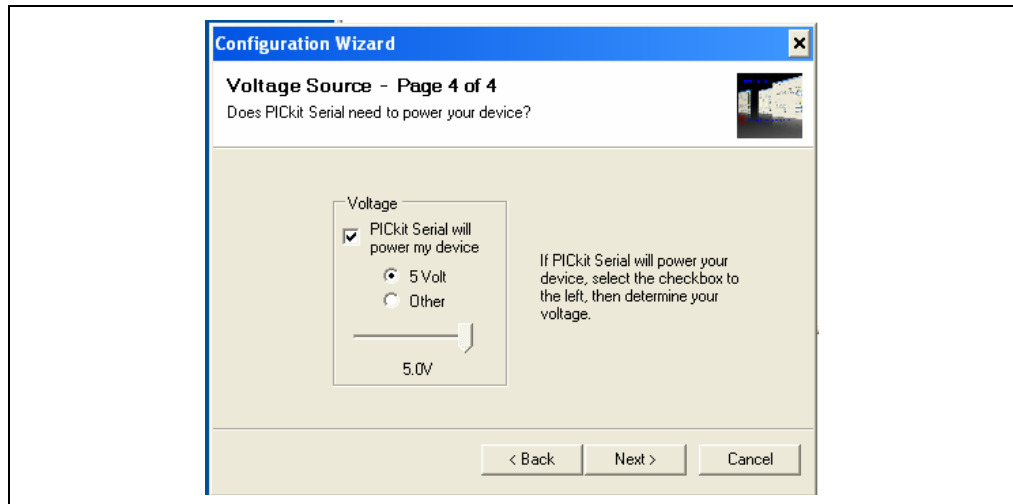

FIGURE 2-6: Voltage Source Selection Window.
- a) By choosing the “PICKit™ Serial will power my device” option and selecting the **5 Volt** radio button, as shown in Figure 2-6, the MCP3421/2 SOT-23-6 Evaluation Board will be powered by the 5V DC output of the PICKit™ Serial Analyzer through the R3 0 Ω resistor/jumper.